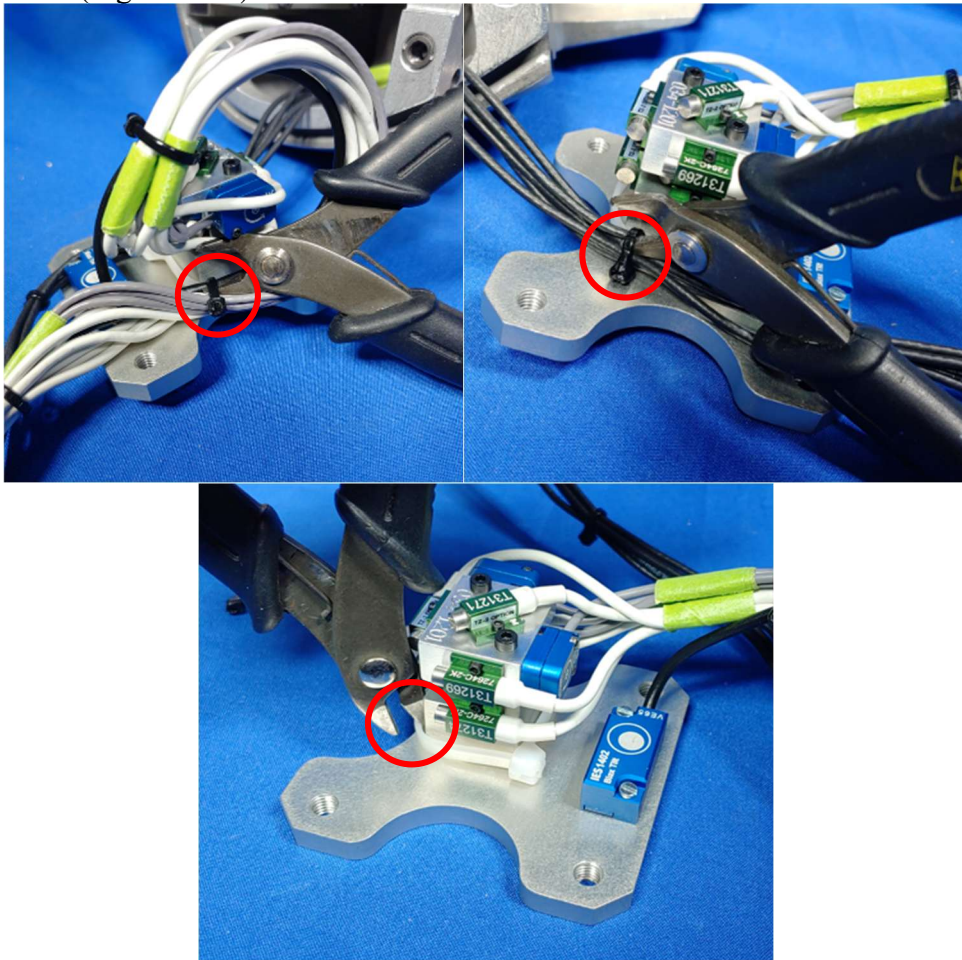

Figure 3-10. Strain relieving cable ties on the head sensor mounting plate
3.2.9 Remove the three strain relieving cable ties from the head instrumentation wires (Figure 3-10).